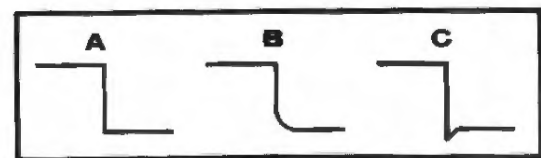

Figure 4-2
- () Refer to Figure 4-2 and adjust trimmer capacitor C412 until one cycle produces a 10 cm display on the CRT. Use the Horiz position control to move the trace to the left so that you do not use the first 1/2 cycle of the square wave. If you cannot obtain one full cycle on the CRT, check the 1000 Hz calibration (3 steps prior to this one).